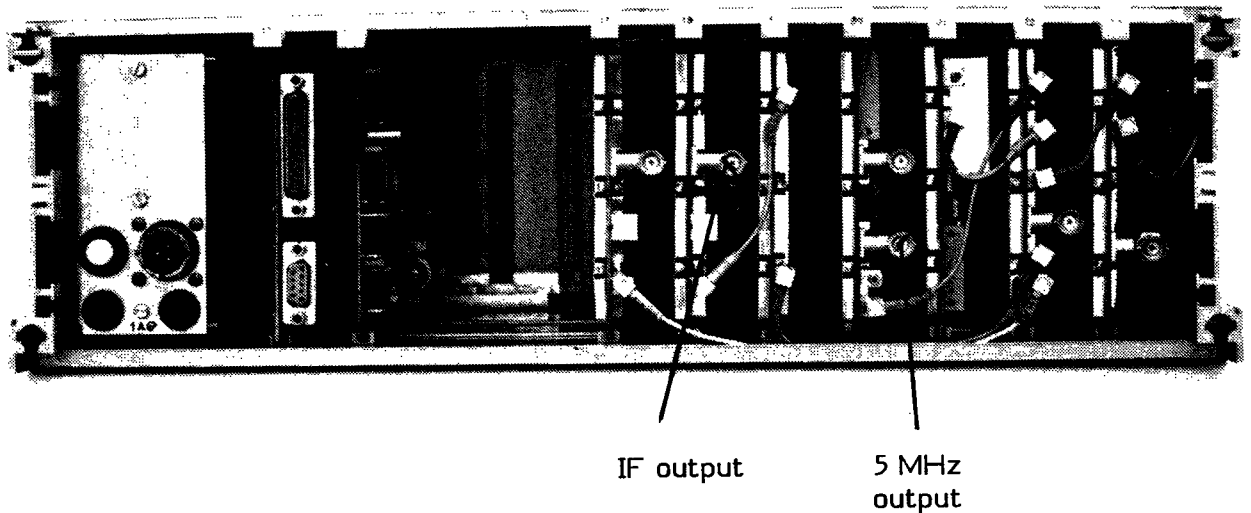

Figure 5:2 Rear of CR91
5. Connect the vertical channel of the oscilloscope to the 5 MHz output on the Reference Board (figure 5:2)